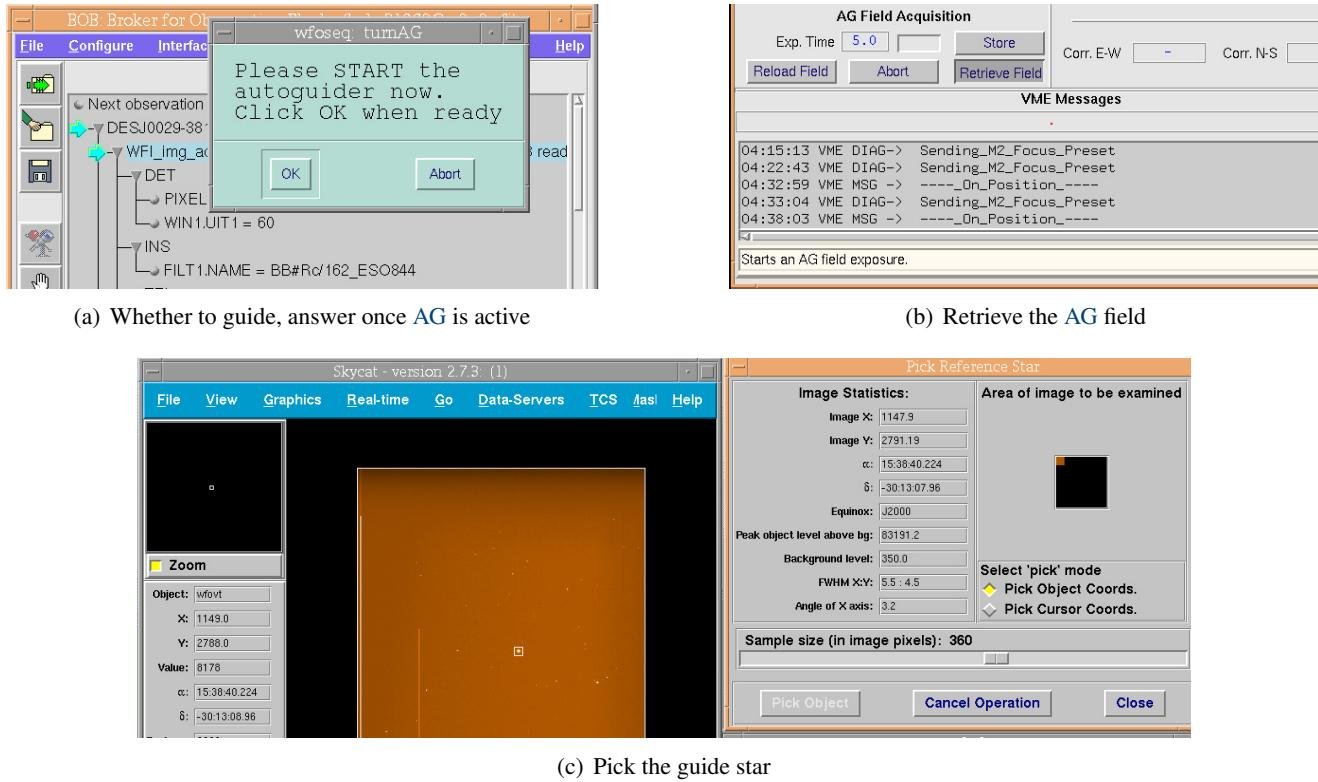

Figure 6.2: WFI guiding for targets outside the solar system
- A. On the TCS workstation, acquire the guide field (Fig. 6.2(b), p. 56)
- C. On the autoguider windows (Fig. 11.3, p. 103), choose the guide star (Fig. 6.2(c), p. 56)
- E. Proceed with the observation, typically by clicking on pop-up asking for guiding (Fig. 6.2(a), p. 56)